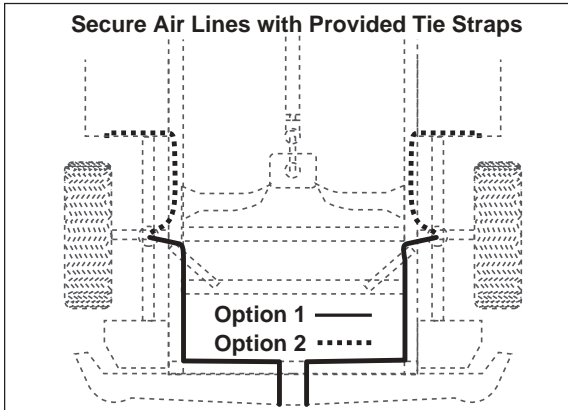

Figure 13
The wheel well flanges; The license plate recess in bumper; Under the gas cap access door; Through license plate (Figure 13).
5. Keep at least 6" of clearance between the air line and heat sources, such as the exhaust pipes, muffler, or catalytic converter. Avoid sharp bends and edges. Leave at least 2" of slack when securing the air lines to allow for any movement that might pull on the air line (Figure 13).